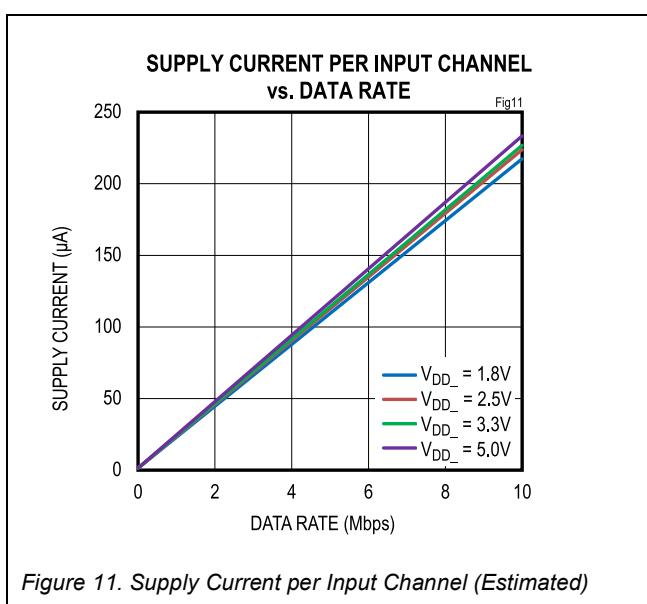
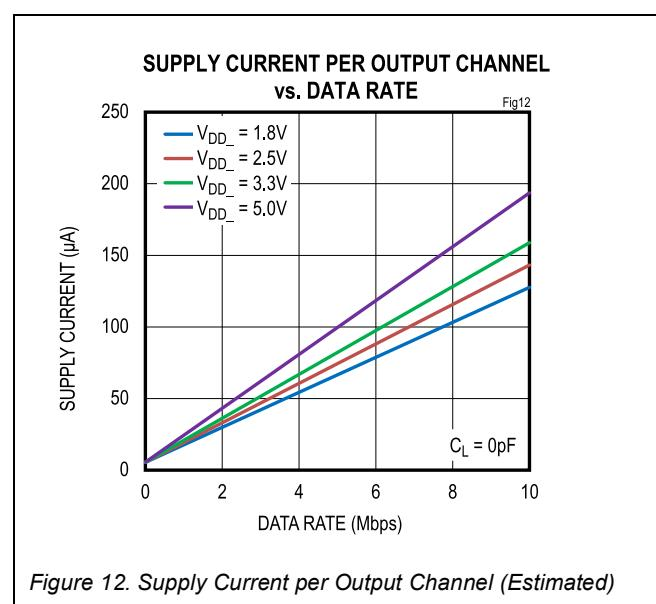

Figure 11. Supply Current per Input Channel (Estimated)
Figure 12. Supply Current per Output Channel (Estimated)
The required current for a given supply (V_{DDA} or V_{DDB}) can be estimated by adding the current required for each channel. The supply current for a channel depends on whether the channel is an input or an output, the channel's data rate, and the capacitive or resistive load if it is an output. The typical current for an input or output at any data rate can be estimated from the graphs in Figure 11 and Figure 12. Note that the data in Figure 11 and Figure 12 are extrapolated from the supply current measurements in a typical operating condition.
The total current for a single channel is the sum of the no load current (shown in Figure 11 and Figure 12), which is a function of voltage and data rate, and the load current, which depends on the type of load. Current into a capacitive load is a function of the load capacitance, the switching frequency, and the supply voltage.
- Channel 1, an input channel operating at 2.5V and 1Mbps, consuming 23.64μA, estimated from Figure 11
- Channel 2, an input channel operating at 2.5V and 10Mbps, consuming 223.82μA, estimated from Figure 11
- Channel 3, an input channel connected to ground (DC), consuming 1.39μA, estimated from Figure 11
- Channel 4, an output channel operating at 2.5V and 5Mbps, consuming 74.36μA, estimated from Figure 12
- Channel 1, an output channel operating at 3.3V and 1Mbps, consuming 20.85μA, estimated from Figure 12
- Channel 2, an output channel operating at 3.3V and 10Mbps, consuming 158.81μA, estimated from Figure 12
- Channel 3, an output channel operating at DC, consuming 5.52μA, estimated from Figure 12
- Channel 4, an input channel operating at 3.3V and 5Mbps, consuming 114.13μA, estimated from Figure 11